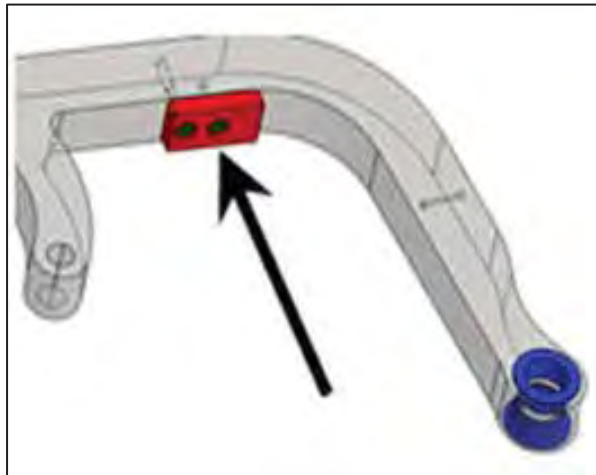

Figure 10
8) Inspect the door stopper to make sure it is oriented properly. (Fig. 10)